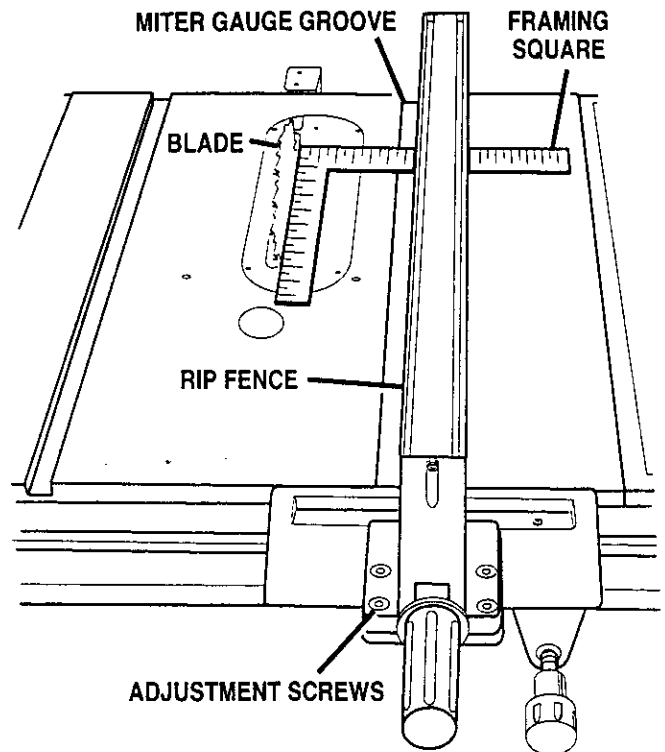

Fig. 15
- Move the square to the back and measure the length from other end of the fence. See Figure 15.